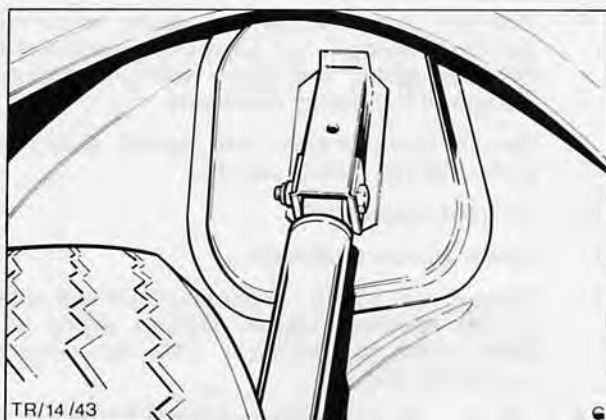

Fig. 42. Shock absorber upper mounting
1. Remove nut and withdraw bolt from upper shock absorber mounting bracket, Fig. 42.